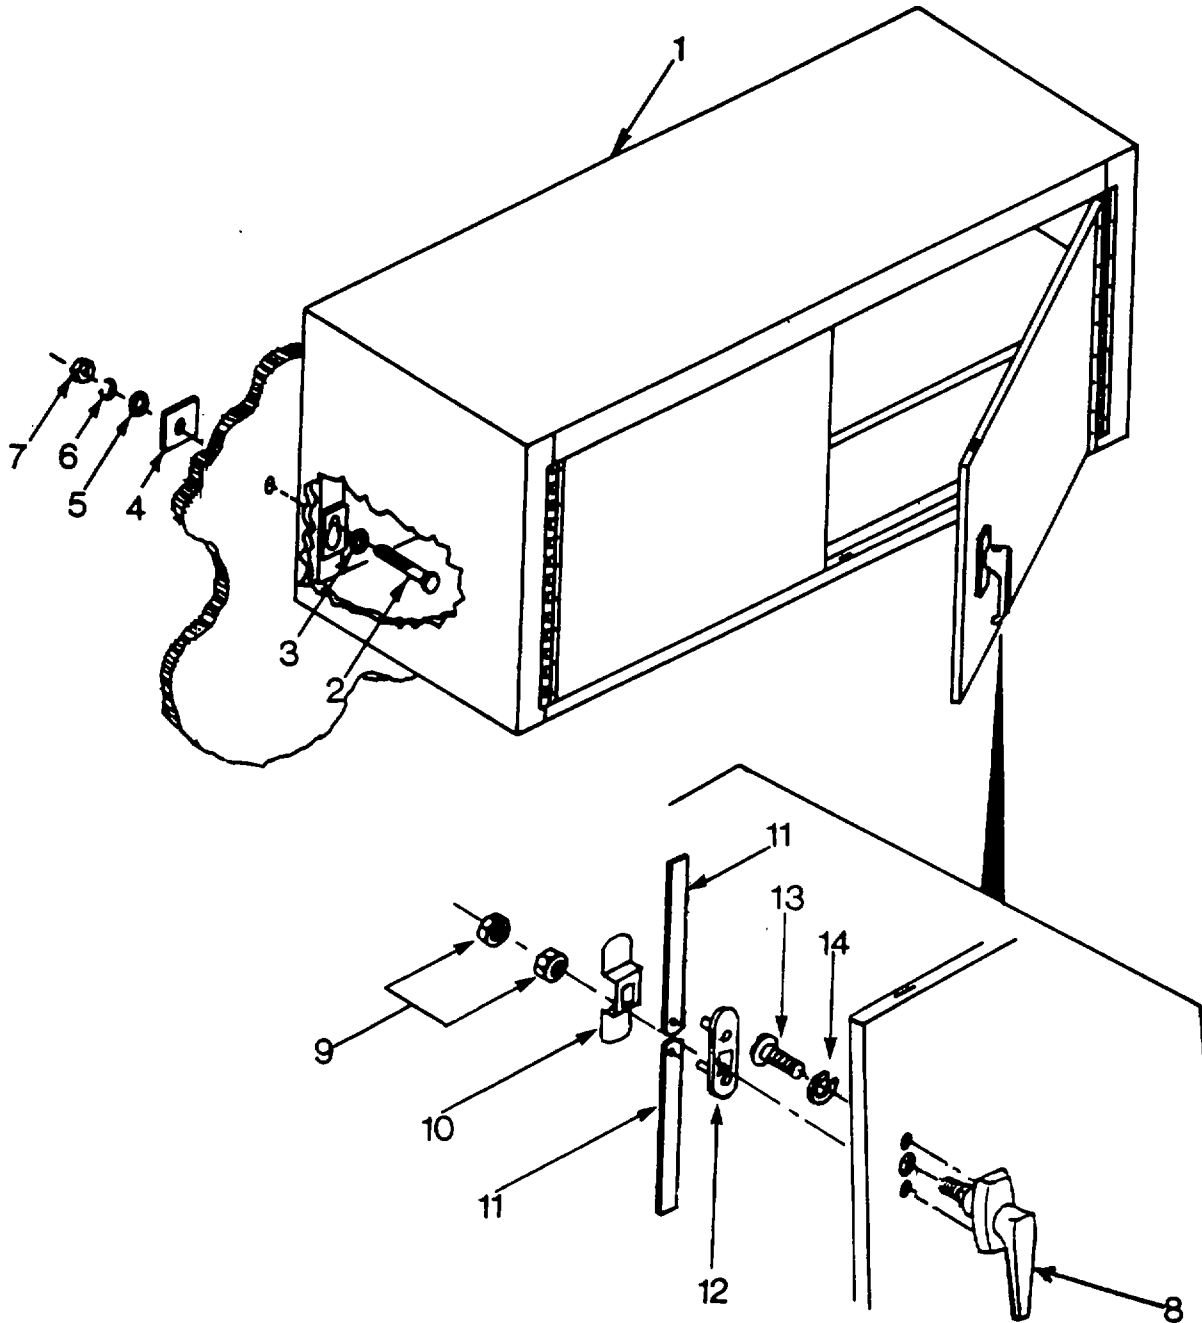

Figure 4-12. Wall Mounted Storage Cabinet
a. Inspect. (See Figure 4-12.)
(1) Check press wall cabinet for security of mounting. Check for dents and structural damage. Inspect welds for breaks or separation.
(2) Check wall cabinet handles for security of installation and damage.
(3) Check latching mechanism for proper operation and security.
b. Replace. (See Figure 4-12.)
(1) Remove contents of wall cabinet (1) shelves.
(2) Remove bolts (2), flat washers (3), backing plates (4), flat washers (5), lockwashers (6), nuts (7) and cabinets (1).
(3) Install wall cabinet (1), secure with bolts (2), flat washers (3), backing plates (4), flat washers (5), lockwashers (6), and nuts (7). Seal backing plate (4) to shelter wall with RTV sealant (3, Appendix E).
b. Replace - Continued. (See Figure 4-12.)
- c. Repair. (See Figure 4-12.)
- (1) Replace door handle assembly.
- (a) Remove door handle assembly (8) by removing nuts (9) and retainer plate (10).
- (b) Remove rods (11) and backing plate (12).
- (c) Remove bolts (13), star washers (14) and door handle assembly (8).
- (d) Install replacement door handle assembly (8) and secure with star washers (14) and bolts (13).
- (e) Install backing plate (12), rods (11), retainer plate (10), and secure with nuts (9).
- (2) Remove minor dents and bends from wall cabinet body.
- (3) Remove minor dents and bends from wall cabinet shelf.
- (4) Repair welds as needed.
- (5) Replace handle assemblies if necessary.